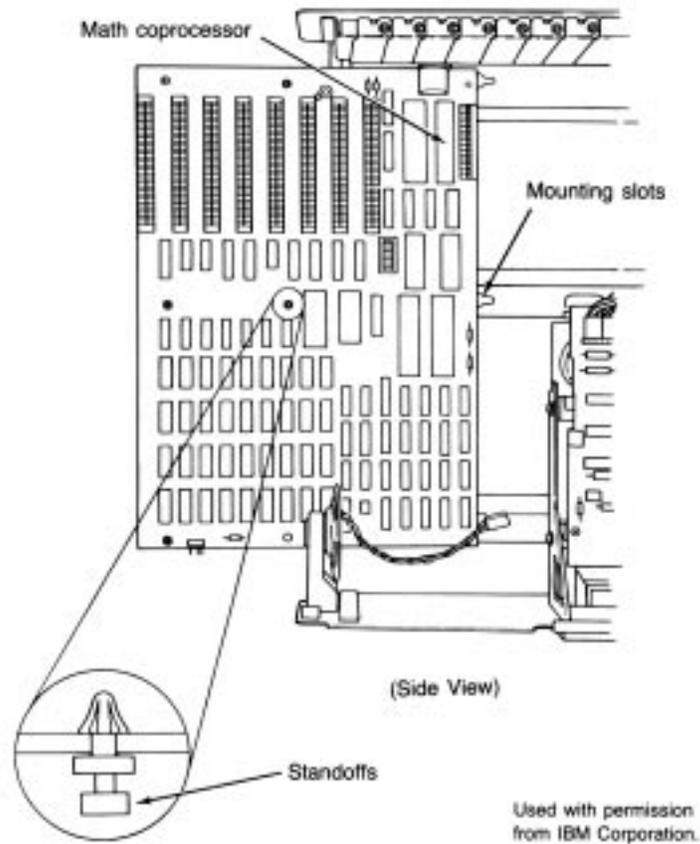

Fig. 3.11
3. Slide the motherboard away from the power supply about a half-inch until the standoffs have disengaged from their mounting slots (see fig. 3.11).